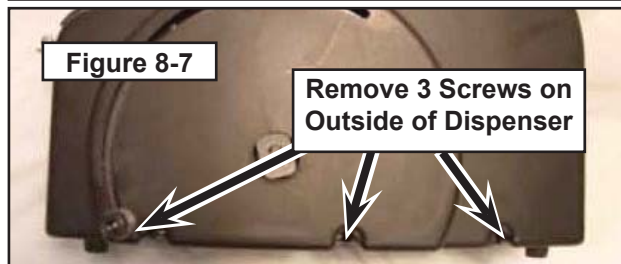

Figure 8-7
7. Remove three screws on outside of dispenser (**Figure 8-7**).